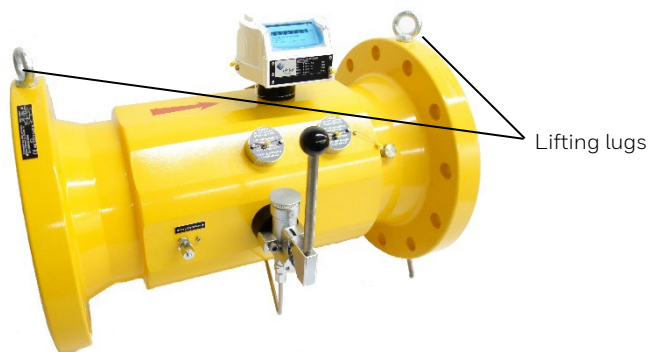

Fig. 5 | Lifting lugs
*Always use the supplied lifting lugs (see Fig. 5) for transporting the meters.*